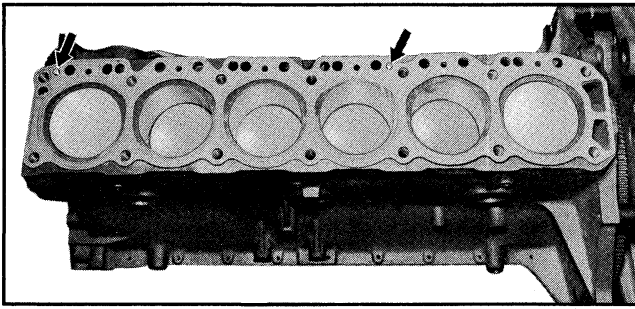

Fig. 6-26 Installing Head Gasket
1. Place a new cylinder head gasket in position over dowel pins in cylinder block (Fig. 6-26).